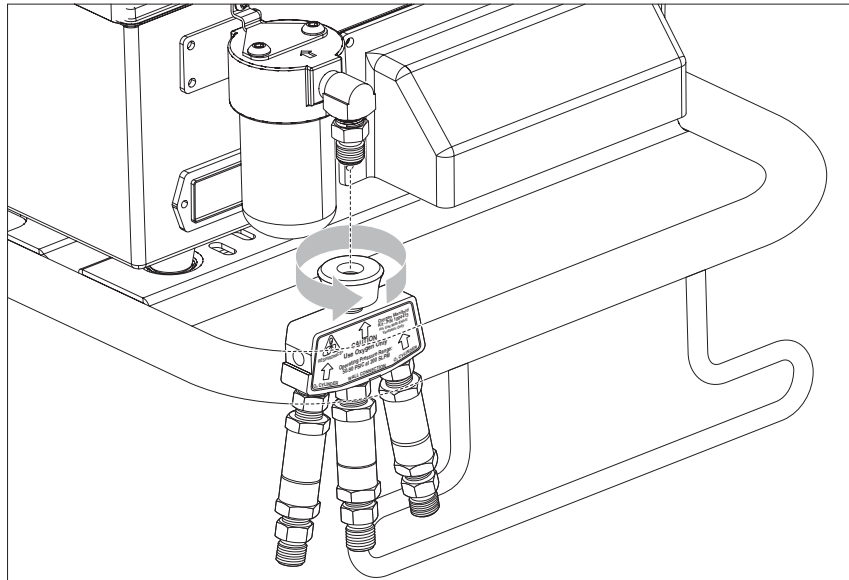

Figure 13-10: Ventilator With Oxygen Manifold
2. Attach the oxygen manifold assembly to the ventilator by threading the adapter fitting onto the oxygen inlet elbow fitting. Using the manifold for leverage, rotate the oxygen inlet elbow fitting until the manifold assembly is vertical, as shown in Figure 13-10.